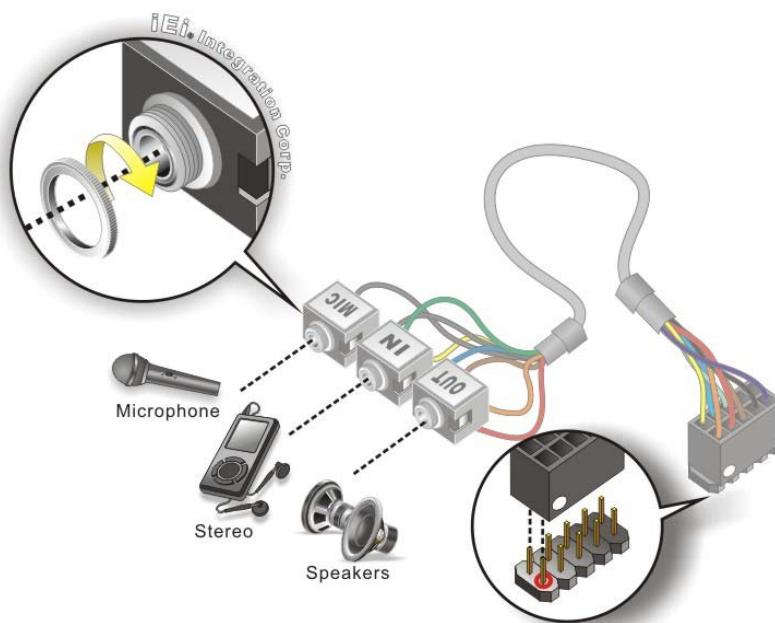

Figure 4-3: Audio Kit Cable Connection
Step 2: Align pin 1. Align pin 1 on the on-board connector with pin 1 on the audio kit connector. Pin 1 on the audio kit connector is indicated with a white dot. See Figure 4-3.